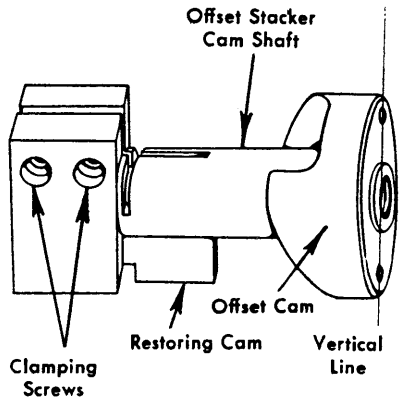

Figure 53. Cam Shaft Timing
#### CAMSHAFT TIMING (FIGURE 53)
2. Loosen the locking screws and position the cam shaft laterally on the stacker shaft to provide 1/32 inch clearance between the low dwell cam surface and the cam fingers. Use care not to turn the cam shaft and destroy the adjustment shown in Figure 53.